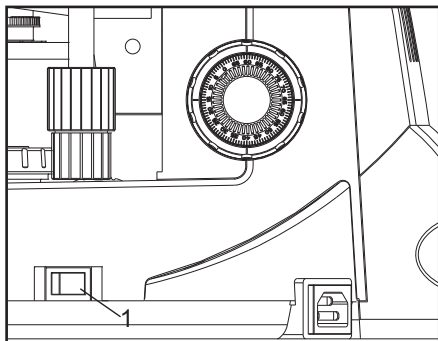

Fig 13
1. Flip the main switch to "I" (ON) as shown in Figure 13.